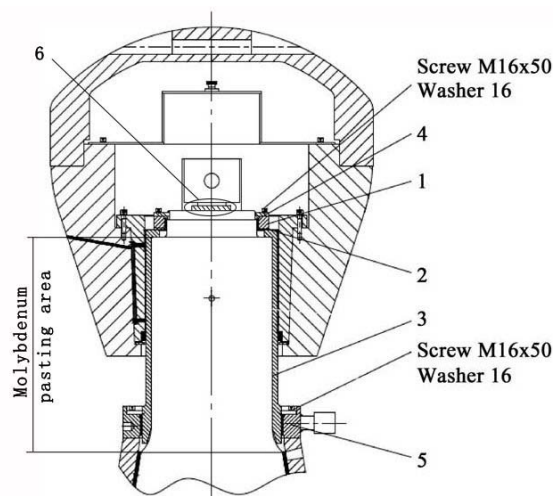
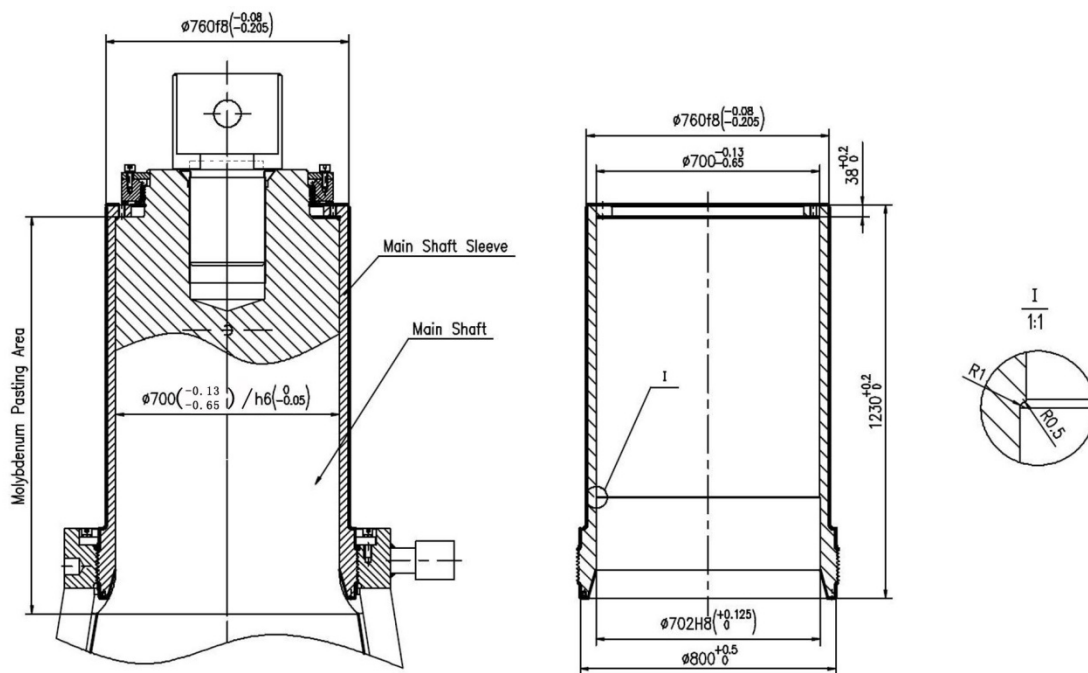

Fig.7-4 Installation scheme of main shaft sleeve of PXZ-1500II Type
Fig. 7-5 Installation dimension of mainshaft and its sleeve
The main shaft sleeve (G0023-6) is installed on the upper main shaft in a hot condition such that it can be replaced easily if damaged, worn or scratched. The standard sleeve is used on the heavy crusher has a thread on the external lower face for the mantle lock nut. An upwards thrust force is exerted from the manganese steel mantle during the crushing operation. A packing washer (G0023-7) is fitted to the top of main shaft and the sleeve lock nut (G0023-3) is then used to retain the main shaft sleeve. (Refer Fig.7-4 and Table 7-3). The diameter of mainshaft neck and the diameter of the bore of the mainshaft sleeve shown in Figure 7-5 are for the reference of the user during the installation and check of mainshaft and its sleeve.
1. First, apply molybdenum disulfide adhesive to the outside surface in the matching zone of the main shaft (see Figure 7-5). This adhesive is a solid lubricant, mainly acting as a lubricant to the installation of the mainshaft, and suitable for high-pressure high-temperature condition.